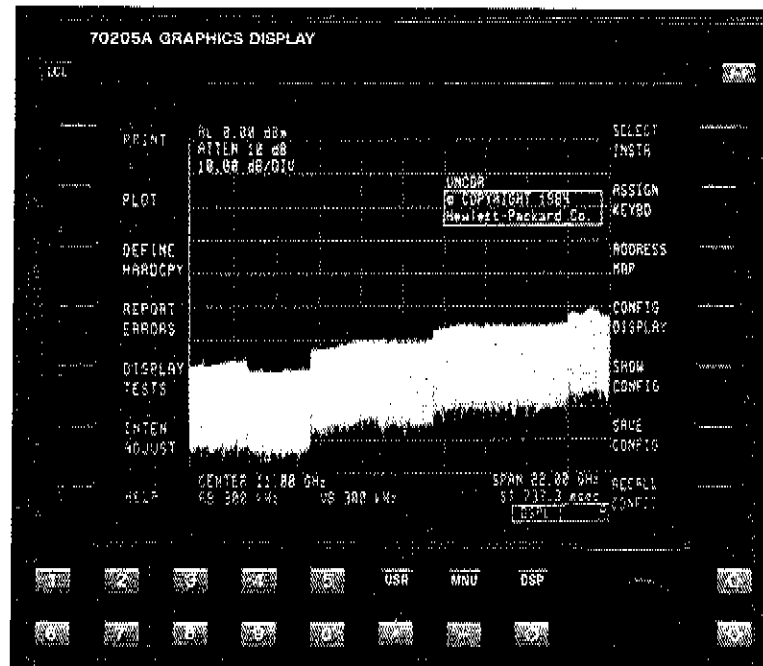

Figure 12. Display Screen.
- c. When the Display Screen (Figure 12) appears, press the Display Test soft key.